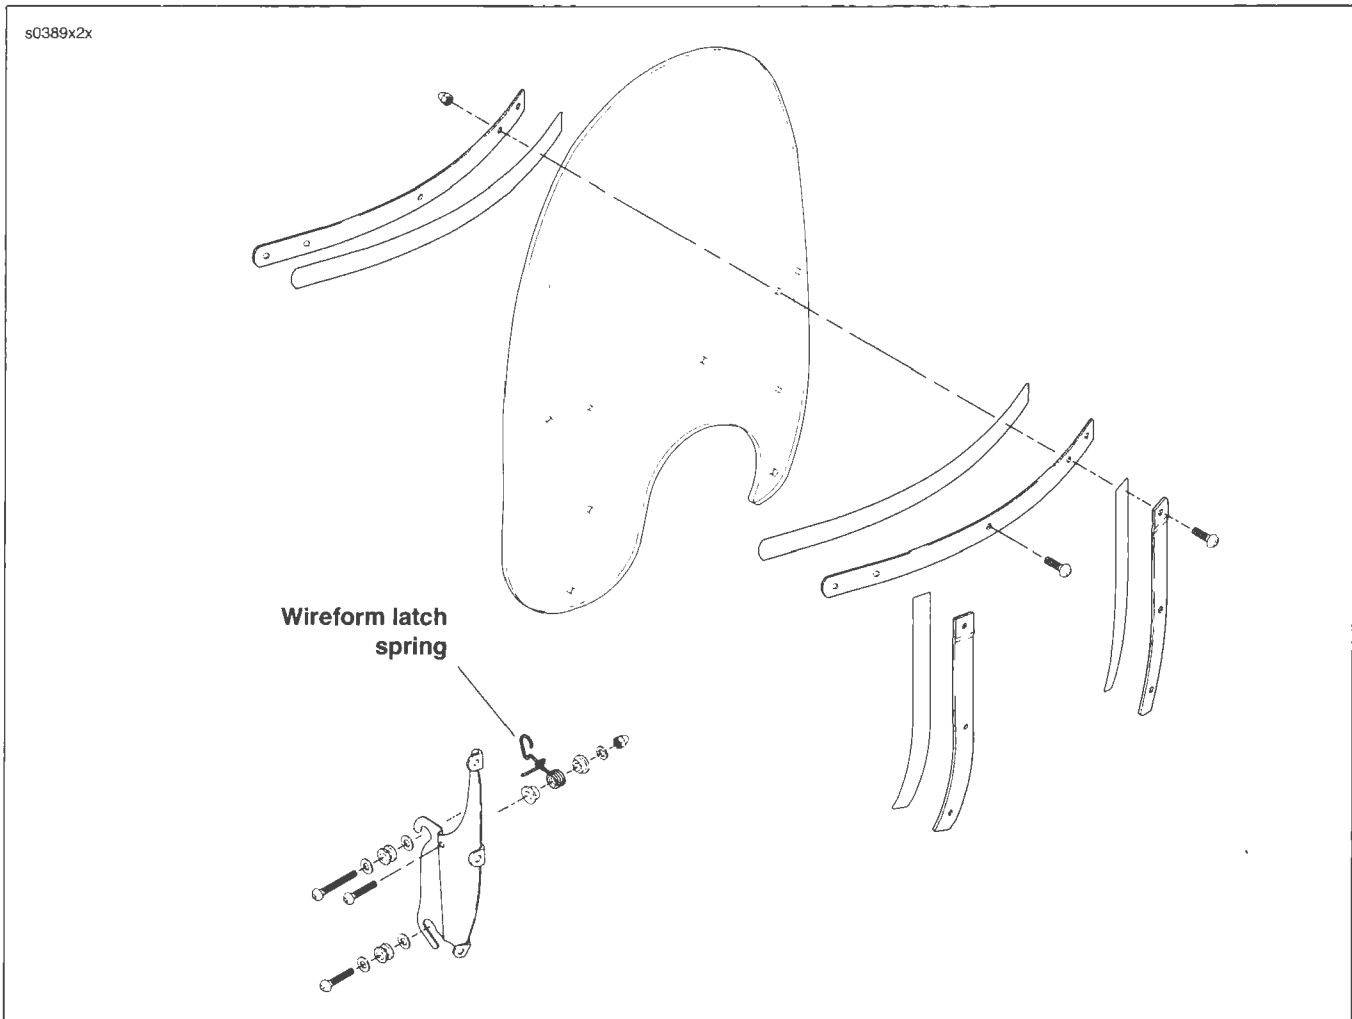

Figure 2-164. Windshield: FLSTC
1. See Figure 2-164. Use a finger to raise the wireform latch springs on each side of the windshield.
2. See Figure 2-164. Standing at the front of the vehicle, gently push the top of the windshield toward the rear until the upper notches fully engage the upper grommets.